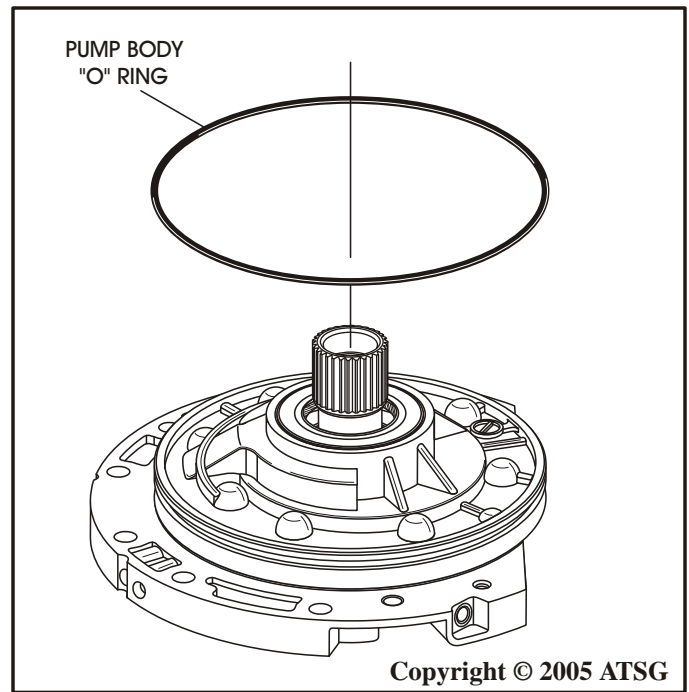

Figure 138
15. Install the oil pump to case "O" ring seal, as shown in Figure 138, and lubricate with small amount of Trans-Jel®.